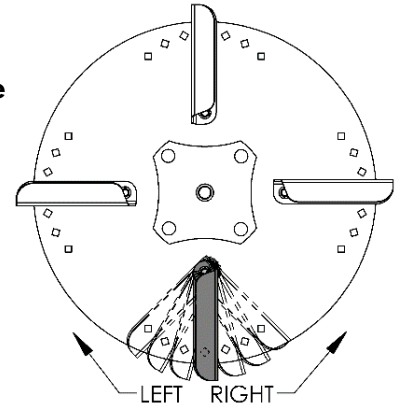

FIGURE 17.1
- The adjustment Fins will let you fine tune the spread pattern. Move the fins in the direction that you want more material to be applied. (e.g. If the material is spreading too heavy to the left then move the Fins to the right for the spread to become heavy on the right. See **FIGURE 17.1**.